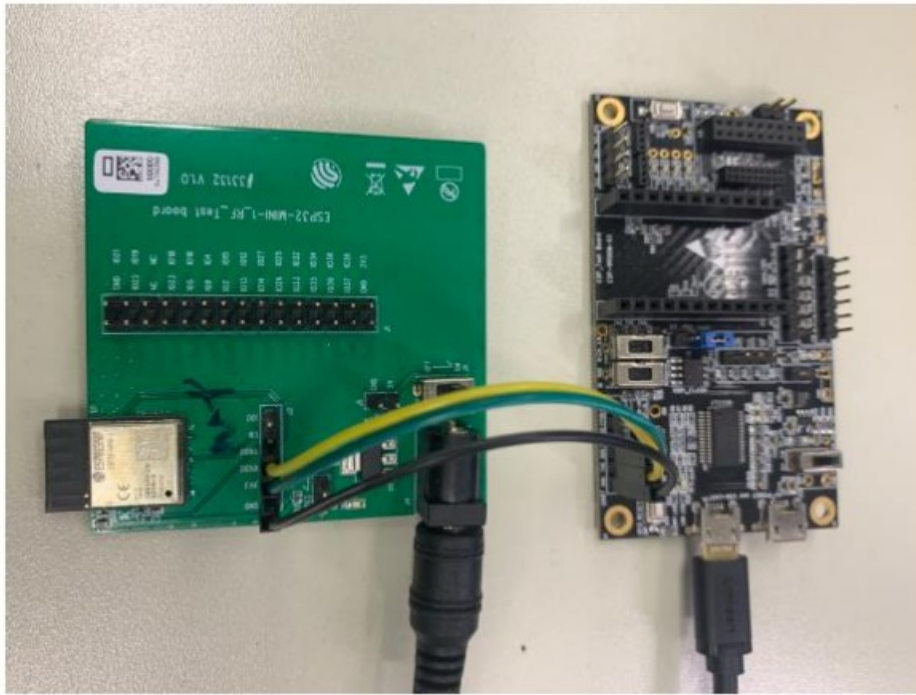

Figure 2: Hardware Connection
- Solder the WT1000R module to the RF testing board as shown in Figure 2.